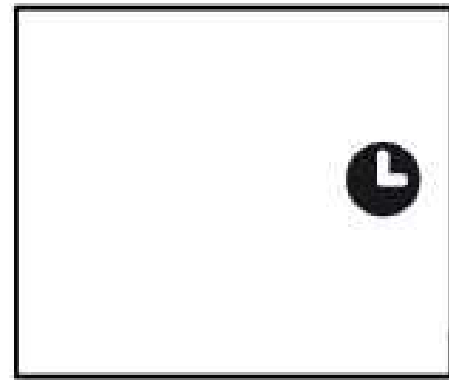

Fig. 4
- Press several times until the corresponding time is displayed. Wait about 5 seconds, the timer will be active, then only the  symbol will display on the screen (Fig. 4)